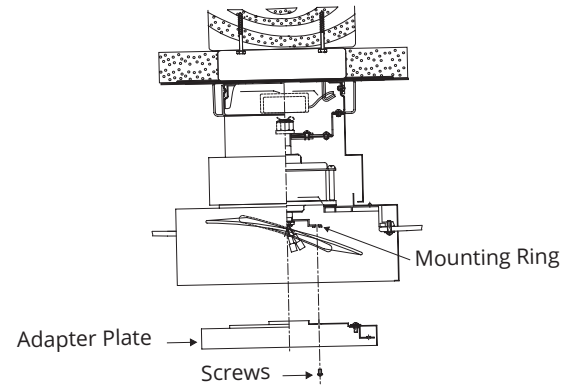

FIG.20
2. Place the key holes in the mounting plate over the two screws previously loosened from the mounting ring. Turn the mounting plate until the adapter plate locks in place at the narrow section of the key holes (**FIG. 20**).